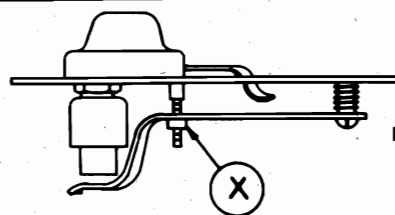
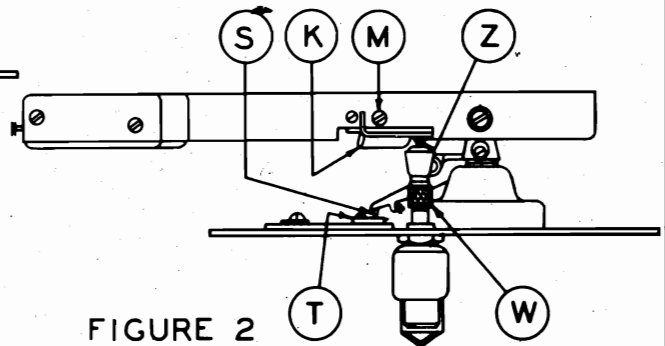

FIGURE 4
FIGURE 2
hardened steel pin in the end of tone arm lift crank at (S) Fig. 2 engaging the serrated block on the trip lever at (T) Fig. 2. There must be a minimum of 1/32" play between the end of the pin and the block, when, with a short needle, (5/8" Minimum Length) the pickup is resting on one record on the turntable. If the pressure of the pin on the block is not sufficient to insure operation, then check the pressure spring which is located up under the pickup.
If the pickup descends too fast or too slow, adjust the speed of descent by turning the knurled thumb nut on the dashpot sleeve at (W) Fig. 2.
The unit is adjusted at the factory so that the needle will be set down approximately 3/32" in from the edge of the record. An adjusting screw is provided on the side of the pickup at (M) Fig. 2. If the needle is being lowered onto the playing surface of the record, and the adjusting screw at (M) Fig. 2 fails to correct the condition proceed as follows: First stop the record changer, with the pickup in the maximum raised position and check the clearance between the underside of the pickup shelf at (Z) Fig. 2 and the tip of the dashpot. This clearance should be very small as otherwise the pickup will tend to bounce as it is lowered. There must be sufficient clearance however to prevent the pickup shelf from rubbing on the tip of the dash pot, or the pickup will not swing out far enough to allow the adjustable stop at (K) Fig. 2 to come to rest against the dashpot. Check this clearance in both 10" and 12" record positions. If adjustment is required, the height of the dashpot may be regulated by loosening the nuts on the bottom of the lift lever stud at (X) Fig. 4 and changing their position on the stud. To raise the dashpot turn the nuts clockwise, to lower the dashpot turn the nuts counter-clockwise. Be sure to lock the nuts tightly together after the adjustment is made.